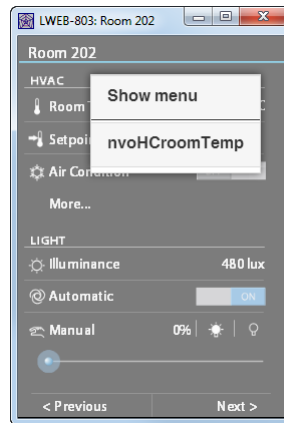

Figure 52: Data Point Context Menu
- Context menu for data points:** If this checkbox is enabled, you can click with your right mouse button on a control to view data point details. On devices without mouse input, a long press can be used on passive controls. A context menu is displayed listing the attached data points (see Figure 52). Select the name of the data point for which you want to inspect the properties as shown in Figure 53.